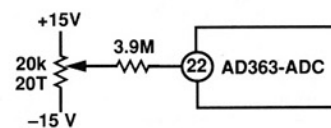
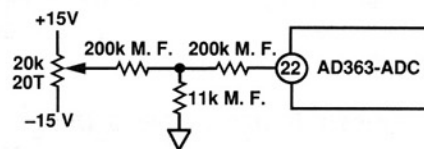

Figure 9a.
Figure 9b.
**Offset Adjust, AD363-ADC:** The simplest offset adjust circuit requires a 20-turn, 20 k $\Omega$  cermet potentiometer and a 3.9 M $\Omega$  resistor as shown in Figure 9a. This arrangement has an adjustment range of  $\pm 8$  LSBs, and will contribute a maximum of 2.3 ppm/ $^{\circ}\text{C}$  offset drift with a carbon composition fixed resistor (TC =  $-1200$  ppm/ $^{\circ}\text{C}$ ). Drift contributions from the offset adjust circuit can be reduced well below this level using metal-film resistors and the circuit of Figure 9b.